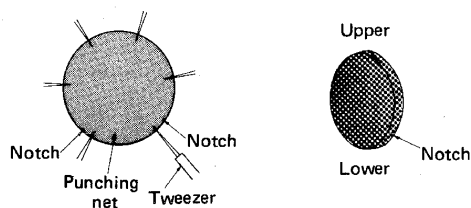

Fig. 3
1. Remove the woofer cover by prying along the edges until the cover is separated from the woofer. (Fig. 3)
1. Remove the punching net of the woofer and mid-range speaker by using tweezers or the like as in Fig. 3 with care not to damage the speaker on the net.